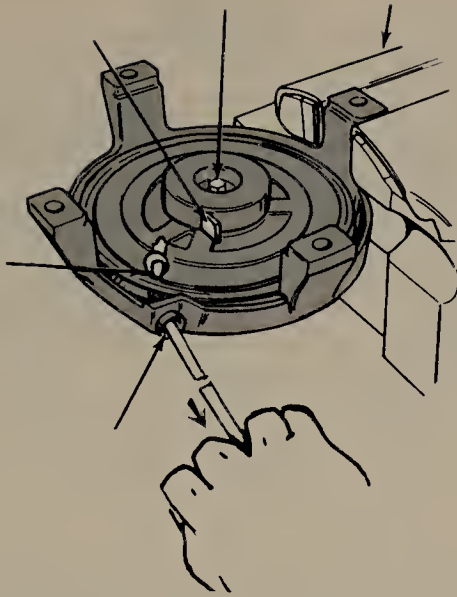
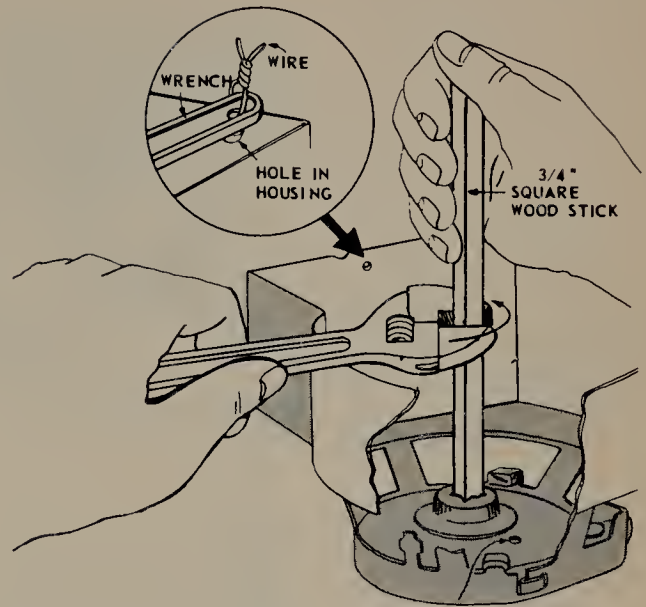
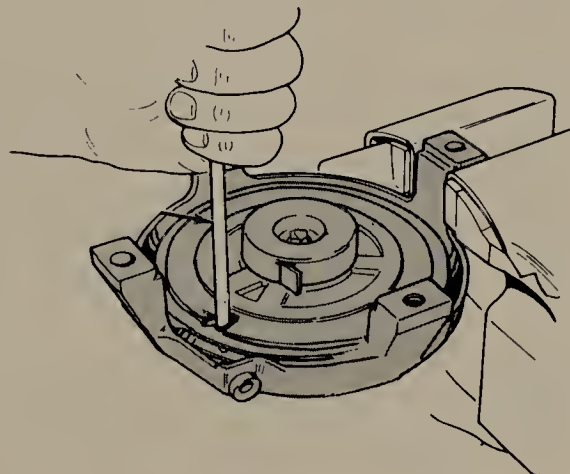

FIGURE 12.3 To begin the repair of the visible-knot type rope-rewind starter, pull the rope all the way out.
FIGURE 12.4 You can hold the pulley, or wind up the recoil spring, with a square piece of wood and a wrench on some models.
FIGURE 12.5 On other models, you can wind up the recoil spring with a screwdriver.
1. Replacing Rope. Remove the starter from the engine. Usually, it is attached by three or four screws. On some engines, it will be necessary to remove a shroud or piece of equipment to get to the starter. You can work on the starter if it is laid on a workbench, but you will find it easier to work on if you clamp it in a vise, as shown in Fig. 12.3. If the knot in the rope is visible, you will be able to replace the rope without disassembling the starter. If the knot is not visible, you will have to disassemble the starter.
a. Visible-knot Starter. On the visible-knot starter, shown in Fig. 12.3, pull the rope all the way out. The pulley must be held so the spring will not unwind when the new rope is installed. You can hold the pulley with a pair of vise-grip pliers or with a wrench and square stock, as shown in Fig. 12.4. Note that the end of the wrench is wired to the housing, as shown in the insert.
If the spring is unwound, you can wind it up again with a wrench and square stock, as shown in Fig. 12.4, or with a screwdriver, as shown in Fig. 12.5. The general rule is to wind the spring up tight, and then back it off one complete turn.
You now reinstall the pulley after winding the rope on it and install the drive mechanism as we will explain later. Rewind the spring and secure it with vise-grip pliers or with a wrench, as shown in Figs. 12.4 and 12.5. Reinstall the starter on the engine, making sure that it is properly aligned. Some starters have an alignment rod which is inserted into a hole in the crankshaft to secure alignment. If the alignment is not correct, the starter will not work properly and will wear out rapidly.
Wear gloves to protect your hands. Attach the spring to the pulley and install the pulley. Wind up the spring as already explained (see Figs. 12.4 and 12.5). Attach the rope to the pulley. Install the starter on the engine and check its operation.
To service the drive mechanism, remove the starter and clamp it in a vice, as shown in Fig. 12.3. Pull the rope and note the action of the drive mechanism. If service is required, remove the drive mechanism, as shown in Fig. 12.19. Disassemble it. Note very carefully what parts go where when you take the mechanism apart so you will know exactly how everything goes together when you reassemble it. Be